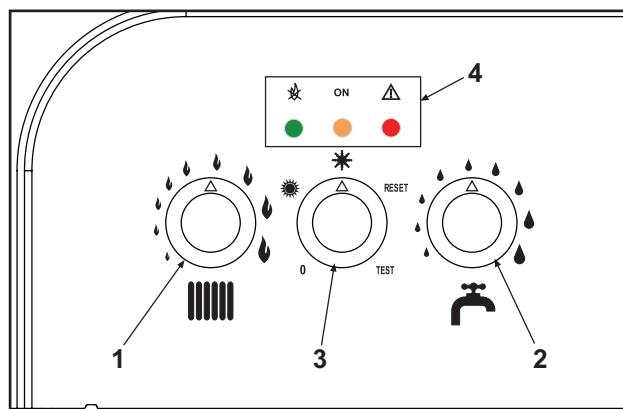

Fig. 1
During normal operation, the boiler diagnostics control sends information on the state of the boiler via the LEDs (4 - fig.1):
- turn the hot water knob (ref. 2 - fig 1) onto minimum (for Natural Gas operation) or onto maximum (for LPG operation)